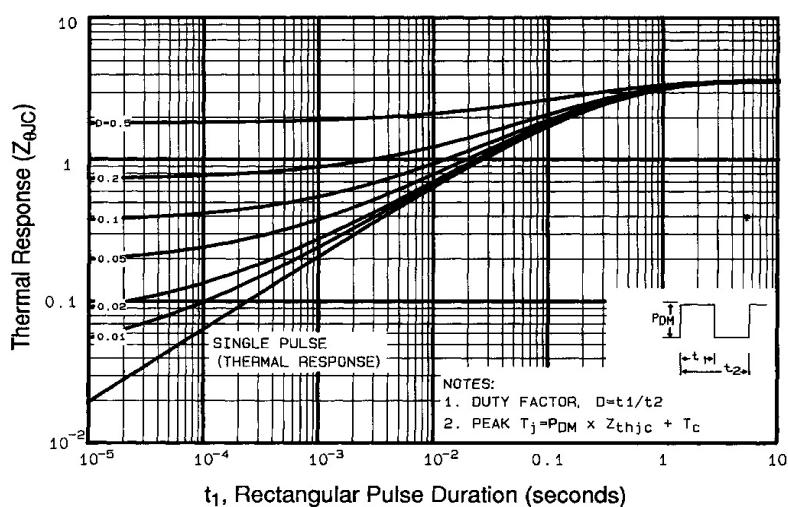

Fig 11. Maximum Effective Transient Thermal Impedance, Junction-to-Case
- ① Repetitive rating; pulse width limited by max. junction temperature (See Figure 11)
- ③ $I_{SD}\leq-7.7\text{A}$, $di/dt\leq140\text{A}/\mu\text{s}$, $V_{DD}\leq V_{(\text{BR})\text{DSS}}$, $T_J\leq175^\circ\text{C}$ ⑤ $t=60\text{s}$, $f=60\text{Hz}$